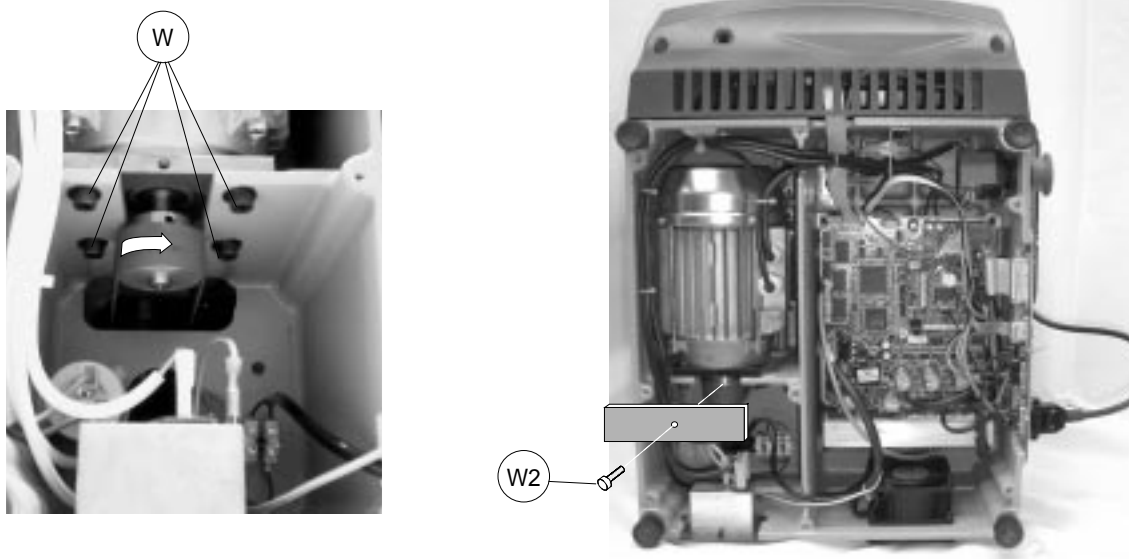

Fig. 45
- 4) loosen the 4 screws (W) securing the motor (fig. 45).
- 7) using the provided belt tension plate and the (W2) screw (fig. 45) adjust the belt's tension by turning the (W2) screw.
- 8) tighten the 4 (W) (fig. 45) screws back into place, securing the motor.
- 3) loosen the 4 screws (W) securing the motor (fig. 45).
- 4) using the provided belt tension plate and the (W2) screw (fig. 45) adjust the belt's tension by turning the (W2) screw.
- 5) tighten the 4 (W) (fig. 45) screws back into place, securing the motor.